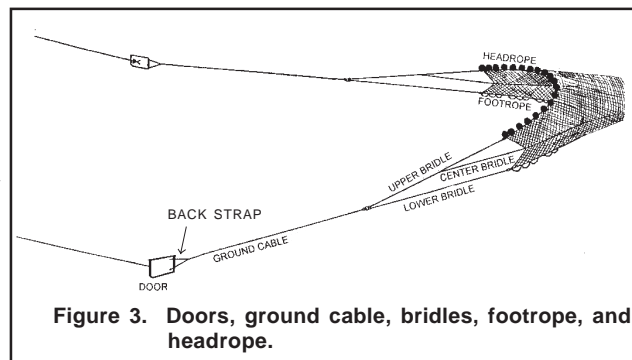

Figure 3. Doors, ground cable, bridles, footrope, and headrope.
3. USED?: Record whether doors are used with this gear by placing an “X” next to the appropriate code (see Figure 3):
14. HEADROPE: Record, in whole feet, the length of the rope along the top of the net. This information may be obtained from the captain. See Figure 3.
15. FOOTROPE/SWEEP: Record, in whole feet, the length of the rope along the bottom of the net. This information may be obtained from the captain. See Figure 3.
16. GROUND CABLE: Record, in whole fathoms, the length of the wire connecting the bridles and the back strap. This information may be obtained from the Captain. See Figure 3.
17. BRIDLE: Record, in whole fathoms, the length of the upper bridle on one side of the net. This information may be obtained from the Captain. See Figure 3.
20. TYPE: Record the type of gear making up the ground cable, the bridles/legs, and the sweep by placing an “X” next to the appropriate code (see Figures 3, 5 and 6):
36. LOCATION: Record the location of transducers used on this gear by placing an "X" next to the appropriate code (see Figures 3 and 8):